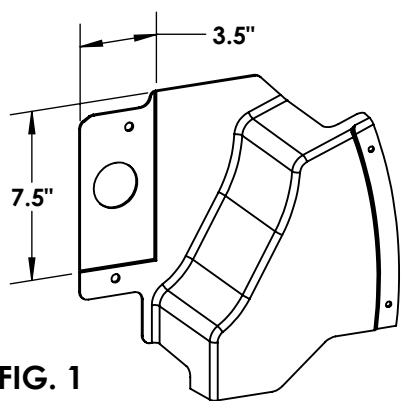

FIG. 1
2. Trim the side underbody panels as shown in **FIG. 1**. Set panels and fasteners aside for reinstallation.